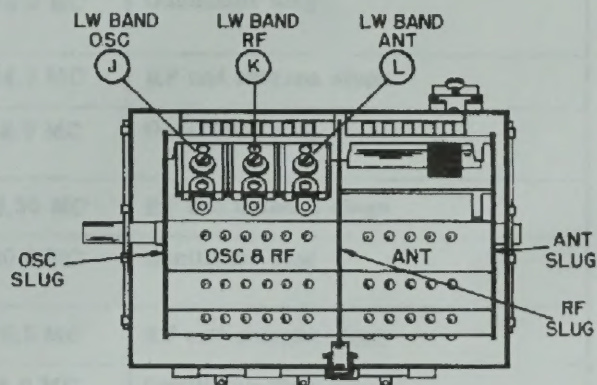

Fig. 7. Bottom View of Tuner Showing Location of Alignment Adjustments
Band selection is accomplished by rotation of the tuner turret assembly, which has a separate set of two snap-in coil strips for each band. One strip contains the antenna coil and the other contains the RF and oscillator coils. (See Fig. 7). Coils can be identified as to band by the number stamped on the outside of the coil strip. Refer to the chart at the top of the schematic diagram for cross reference of coil marking, band, and frequency range.
- The RF and antenna slugs are accessible thru the opening at the rear of the tuner. (See Figs. 7 and 8.) Note that it is necessary to unclip and remove the antenna coil strip of the band being aligned to gain access to the RF slug.